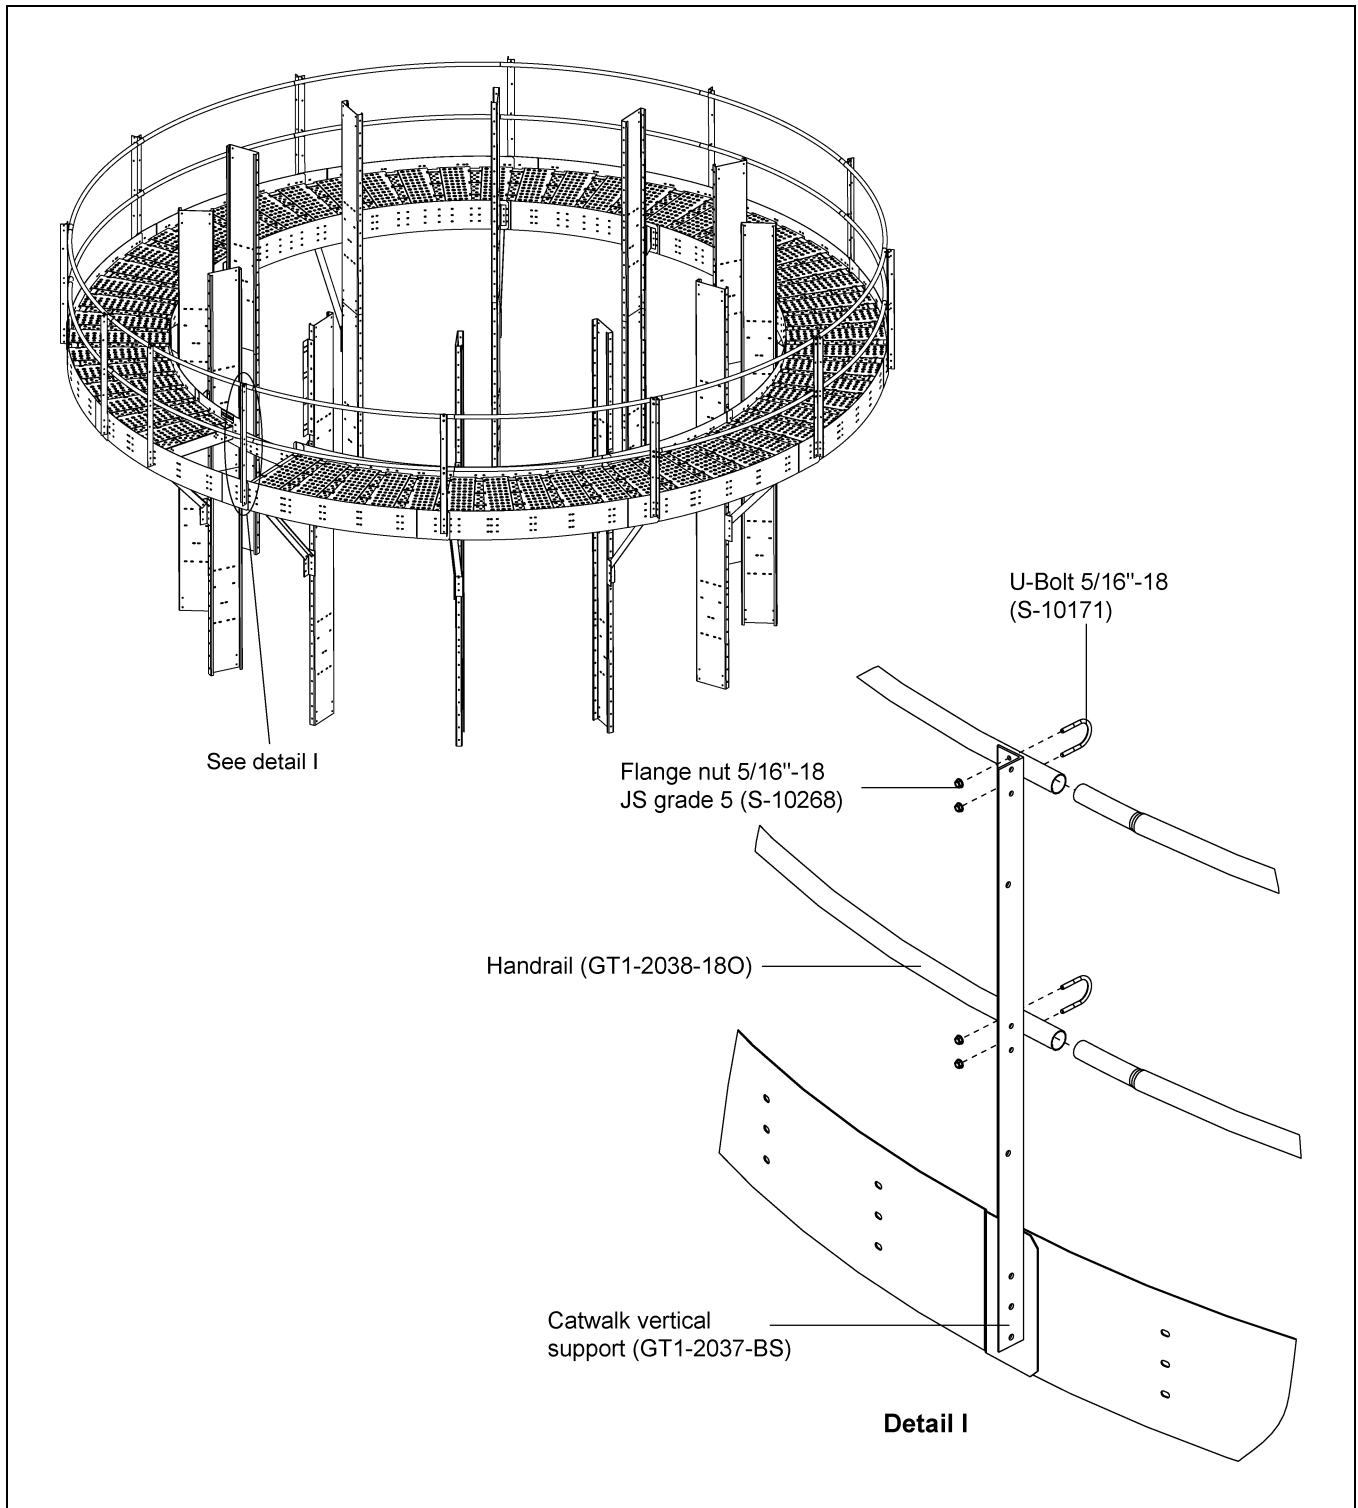

Figure 4U
1. Install the handrail (GT1-2038-180) to the catwalk vertical support (GT1-2037-BS) using 5/16"-18 ZN U-bolts (S-10171) and 5/16"-18 JS grade 5 nuts (S-10268) to tighten the handrail with vertical post. (See Figure 4U.) (See Page 27.)